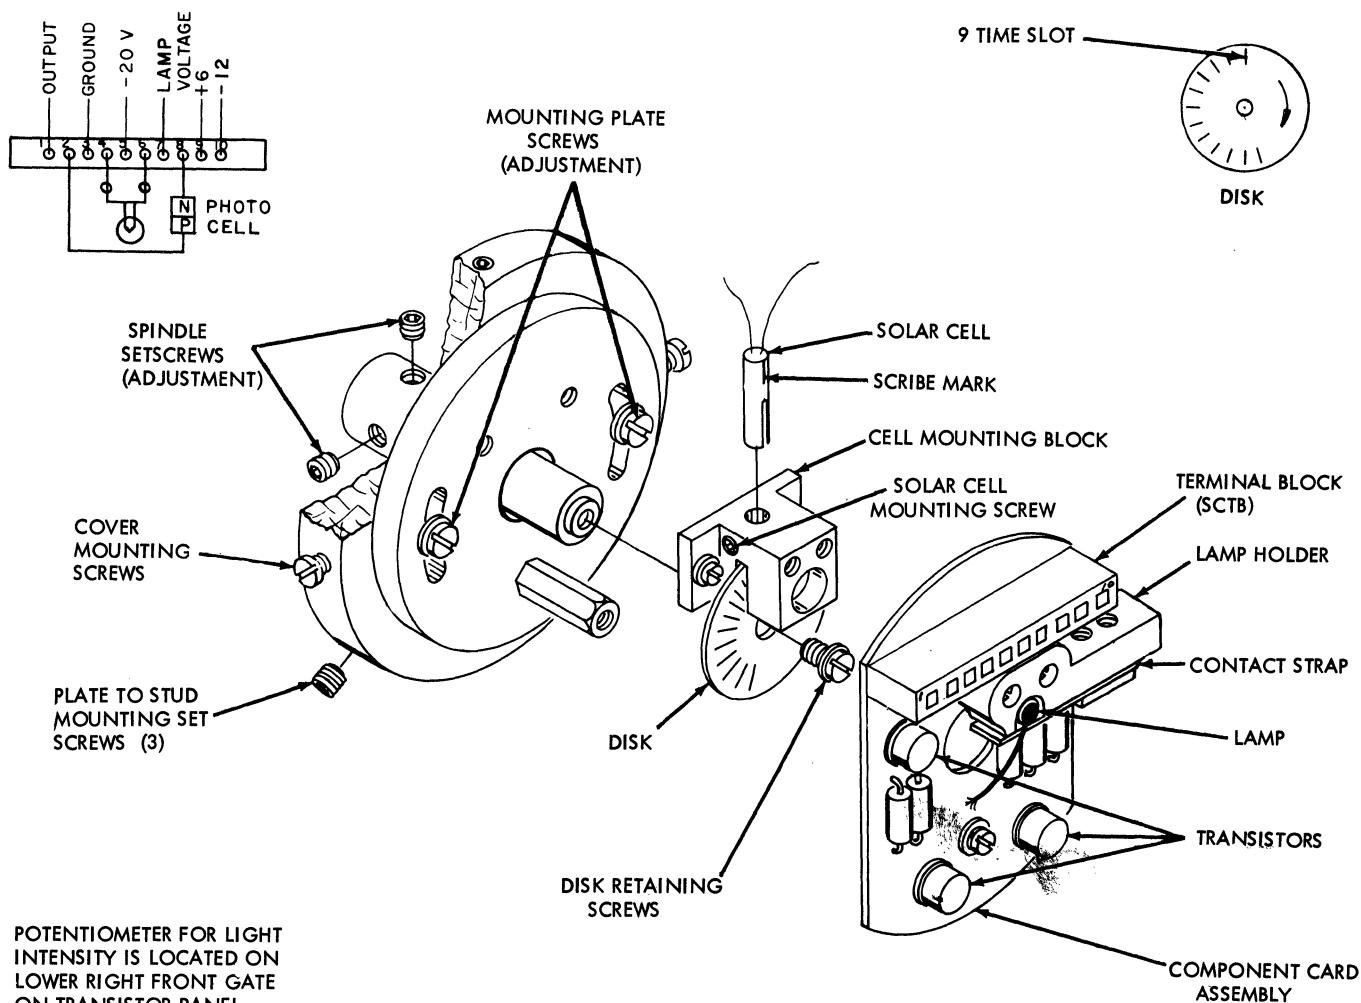

Figure 6-3. Solar Cell Lamp
2. With power removed and reader cranked to "9" time, a coarse timing can be obtained by loosening disk retaining screw and rotating till "9" time slot is visually opposite the light source (Figure 6-3).
3. To accurately adjust the cell for CB duration, loosen the mounting plate screws (Figure 6-3) which enable the mounting plate to be rotated within the mounting slots. Check the "make" and "break" time of the CB pulses at several digit times on the timer. If the mounting plate slotted hubs do not allow proper adjustment, repeat step 2.
1. Check for the disk being visually centered laterally in the slot in the solar cell mounting block. Adjust if necessary by loosening set screws and repositioning spindle on picker knife camshaft (Figure 6-3).
Removal and Replacement (Figure 6-3)
Solar Cell Assembly (Figure 6-3)
3. To reinstall, insert cell into cell mounting block leaving approximately 1/4" of the metal sleeve exposed above the cell mounting block. Position the scribed locating mark so that it points toward the light source (Figure 6-3).
4. Connect solar cell leads to meter. Check output by setting lamp terminal voltage at 1.8. At an index point, measure for a minimum of 100 microamps across the cell as described in step 5 in adjustment procedure. To avoid damaging cell, use care when tightening cell retaining set screw (Figure 6-3).
Component Card Assembly (Figure 6-3)